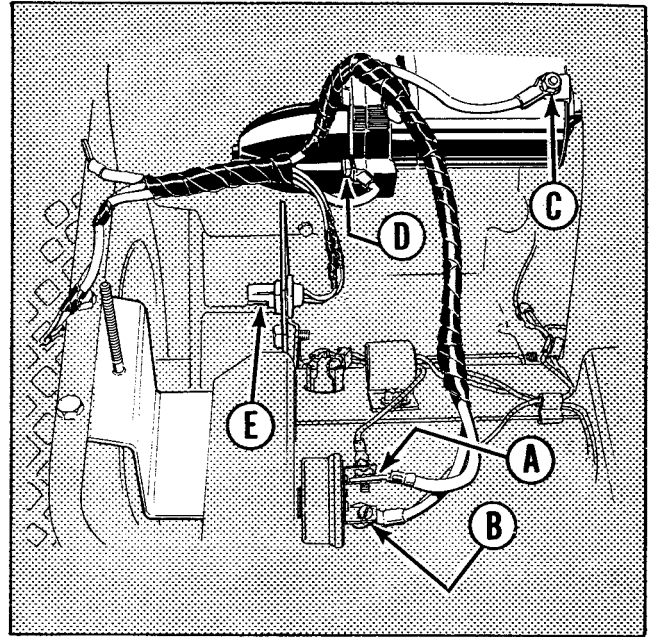

FIGURE 7
10. Install the wiring harness by proceeding as outlined and referring to the illustration. (See figure 7.)